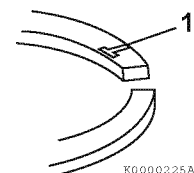

Figure 6-89
*Note: Reinstall the top and second piston rings with the stamped “makers mark” (**Figure 6-89, (1)**) facing the top of the piston. The “makers mark” may vary in appearance but will always be located on the top surface of the piston ring adjacent to the piston ring gap. The oil ring and oil ring expander can be installed either side up.*